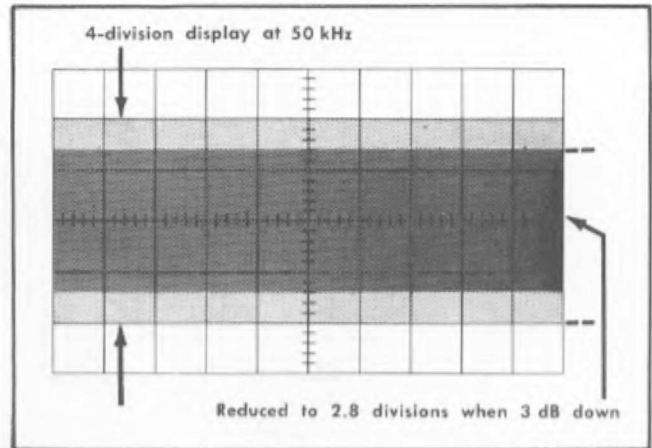

Fig. 7-17. Typical CRT display when checking frequency response.
- Increase the frequency until there is exactly 2.8 cm of deflection. See Fig. 7-17.